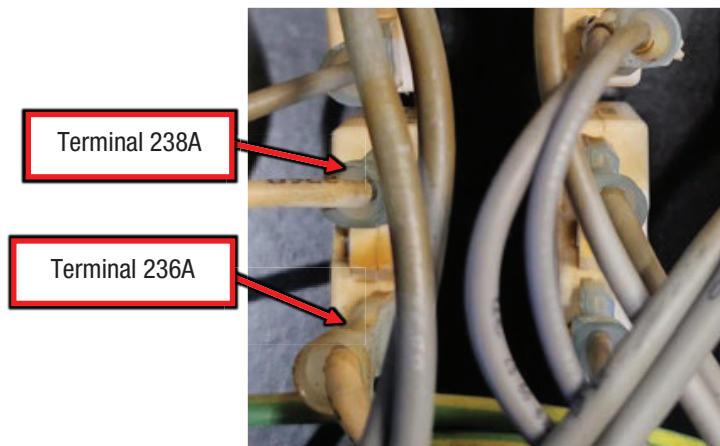

Figure F.3
A.3. Perform the static measurements in Test Table 1, refer to Figure F.3 for test point locations. NOTE: MEASUREMENTS ARE MADE ON CB7 WITH THE LEADS REMOVED.